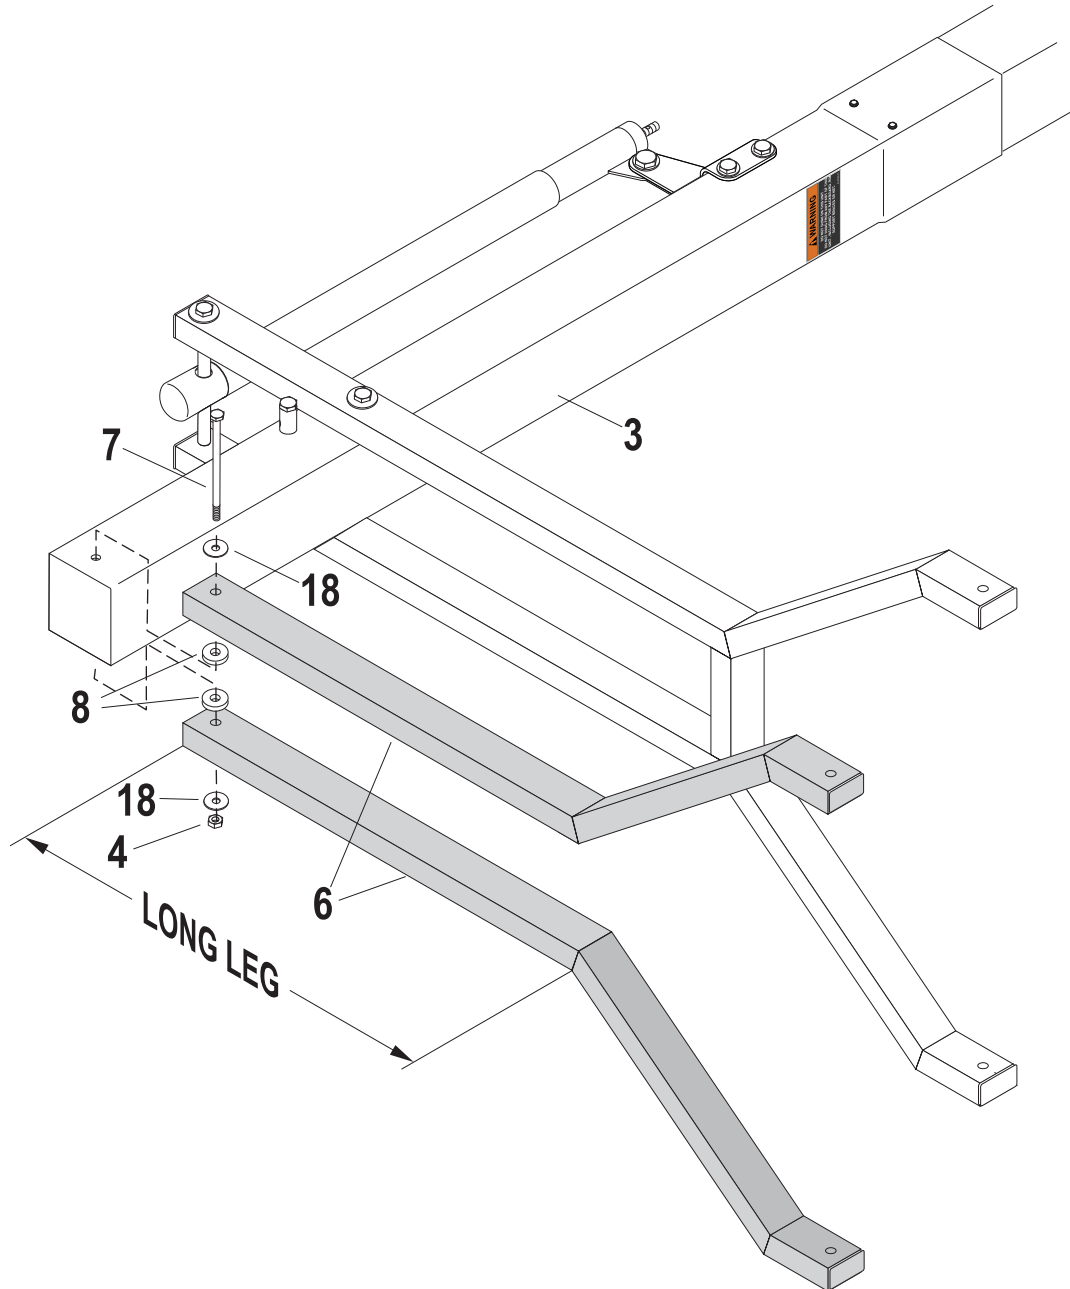

Figure 9
10. Attach long leg of Upper Arms (#6) to Top Pole (#3), as shown in **Figure 9**, using a bolt (#7), two flat washers (#18), two spacers (#8) and one lock nut (#4).